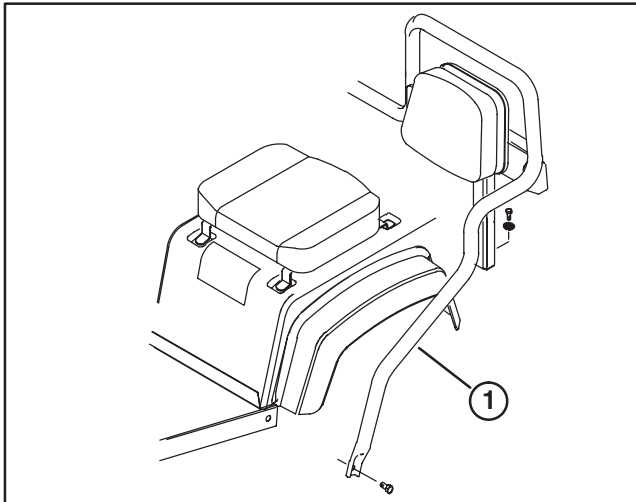

Figure 2
3. Remove (2) capscrews and locknuts securing front legs of seat frame to sides of vehicle floor (Fig. 2).
4. Remove (2) capscrews and lockwashers securing seat frame brackets to vehicle frame (Fig. 2). Remove seat frame assembly.